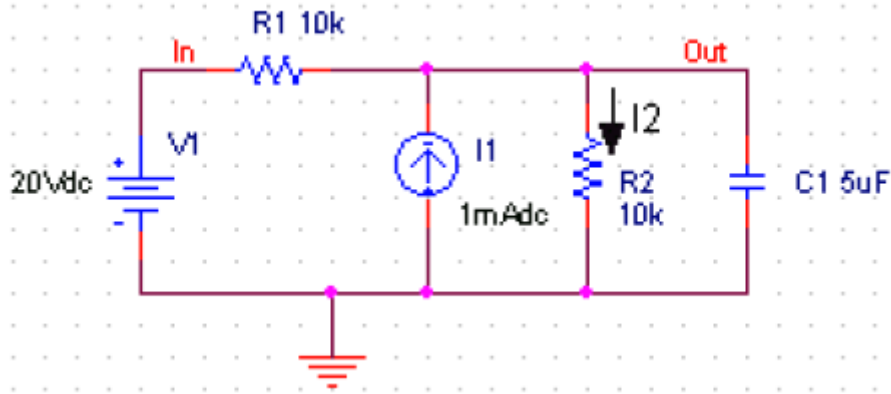

Figure 2. Circuit to be simulated (screen shot from OrCAD Capture).
7. You can assign names to nets or nodes using the Place Net Alias command (PLACE/NET ALIAS menu). We will do this for the output node and input node. Name these Out and In, as shown in Figure 2.
As mentioned in the introduction, Spice allows you do to a DC bias, DC Sweep, Transient with Fourier analysis, AC analysis, Montecarlo/worst case sweep, Parameter sweep and Temperature sweep. We will first explain how to do the Bias and DC Sweep on the circuit of Figure 2.